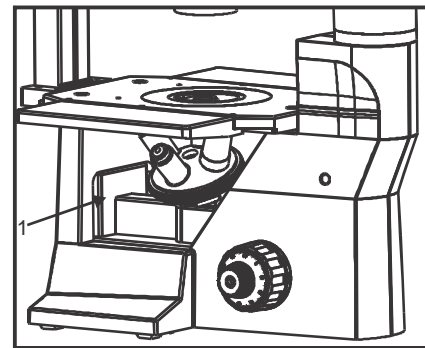

Fig. 1
1. Remove the plastic cover (1) from the microscope to make room for the fluorescence attachment.
Bring the nosepiece to the maximum height by rotating the coarse knob (2) anti-clockwise. Remove the illumination power cable before removing the cover. Apply similar pressure by thumbs on the inner sides of the panel (3 & 4) to push it out. Refer to figure 1 and 2.